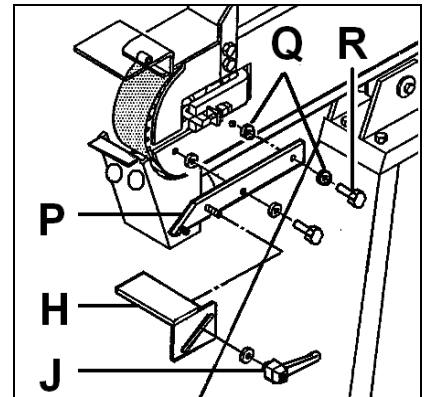

Fig 7
Attach the tool rest support (P, Fig 7) with 2 screws (R) and 4 washers (Q).